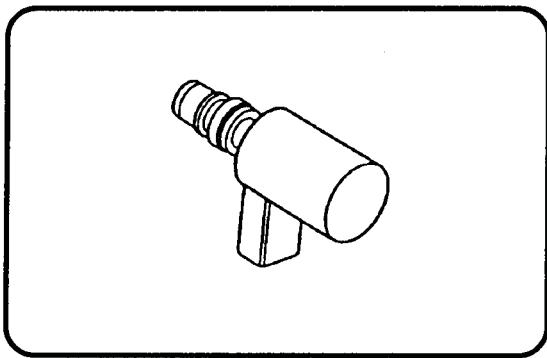

Figure 48
**Variable Force Solenoid** - A VFS solenoid is used to control shift feel by controlling line pressure. Based on the selective grounding action of the EEC-IV processor, the solenoid varies its output pressure. This VFS solenoid is referred to as the ELECTRONIC PRESSURE CONTROL SOLENOID (EPC). This sensor can fail and cause either high or low EPC pressure which can result in soft or harsh shifts (see figure 48). Refer to page 53 for EPC check.